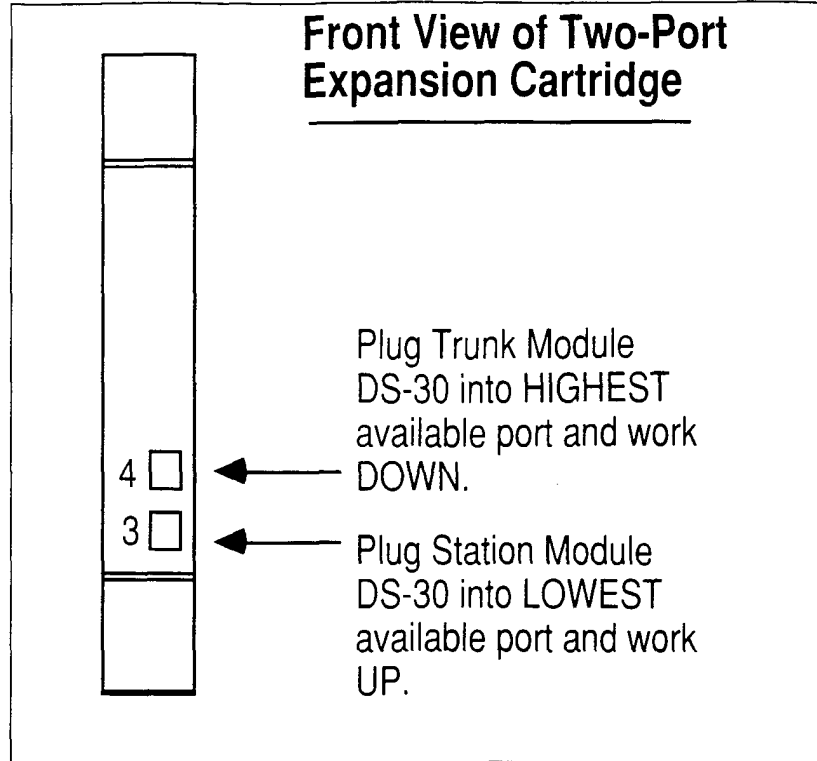

Figure 3.20 - Plug DS-30 cables into KSU Two-port Expansion cartridge
4. **Trunk Modules:** Plug the end of the DS-30 cable of the first TM into the **HIGHEST** available port of the expansion cartridge and work **DOWN** (see Figures 3.20 and 3.21 on the next page).
Station Modules: Plug the end of the DS-30 cable of the first SM into the **LOWEST** available port of the expansion cartridge and work **UP** (see Figures 3.20 and 3.21 on the next page).